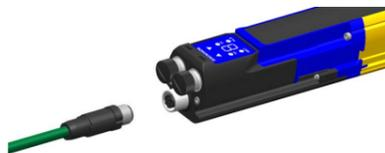

Fig. 4 Connection on Light Curtain Tail
- Insert SG4-DONGLE as shown in Fig. 4
On SG Extended GUI Cascade systems SG4-DONGLE can be connected either on **Master light curtain head** (as in Fig. 3) or on **last slave unit tail** (as in Fig. 4)